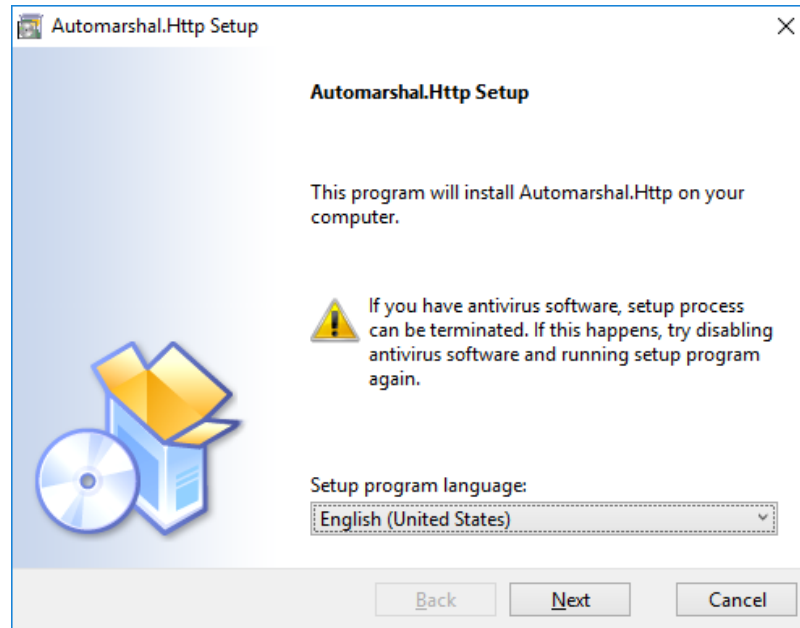

Figure 11.1.2.1
2. It will open Web Client Setup Wizard window (figure 11.1.2.1).